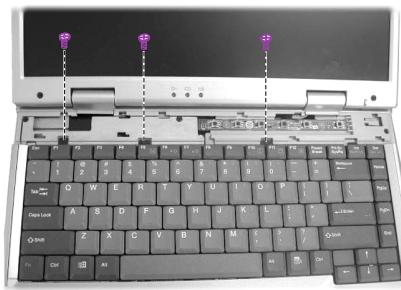

Figure 2-4 Remove three Screws
3. Remove three screws fastening keyboard on the base unit cover. (Figure 2-4)